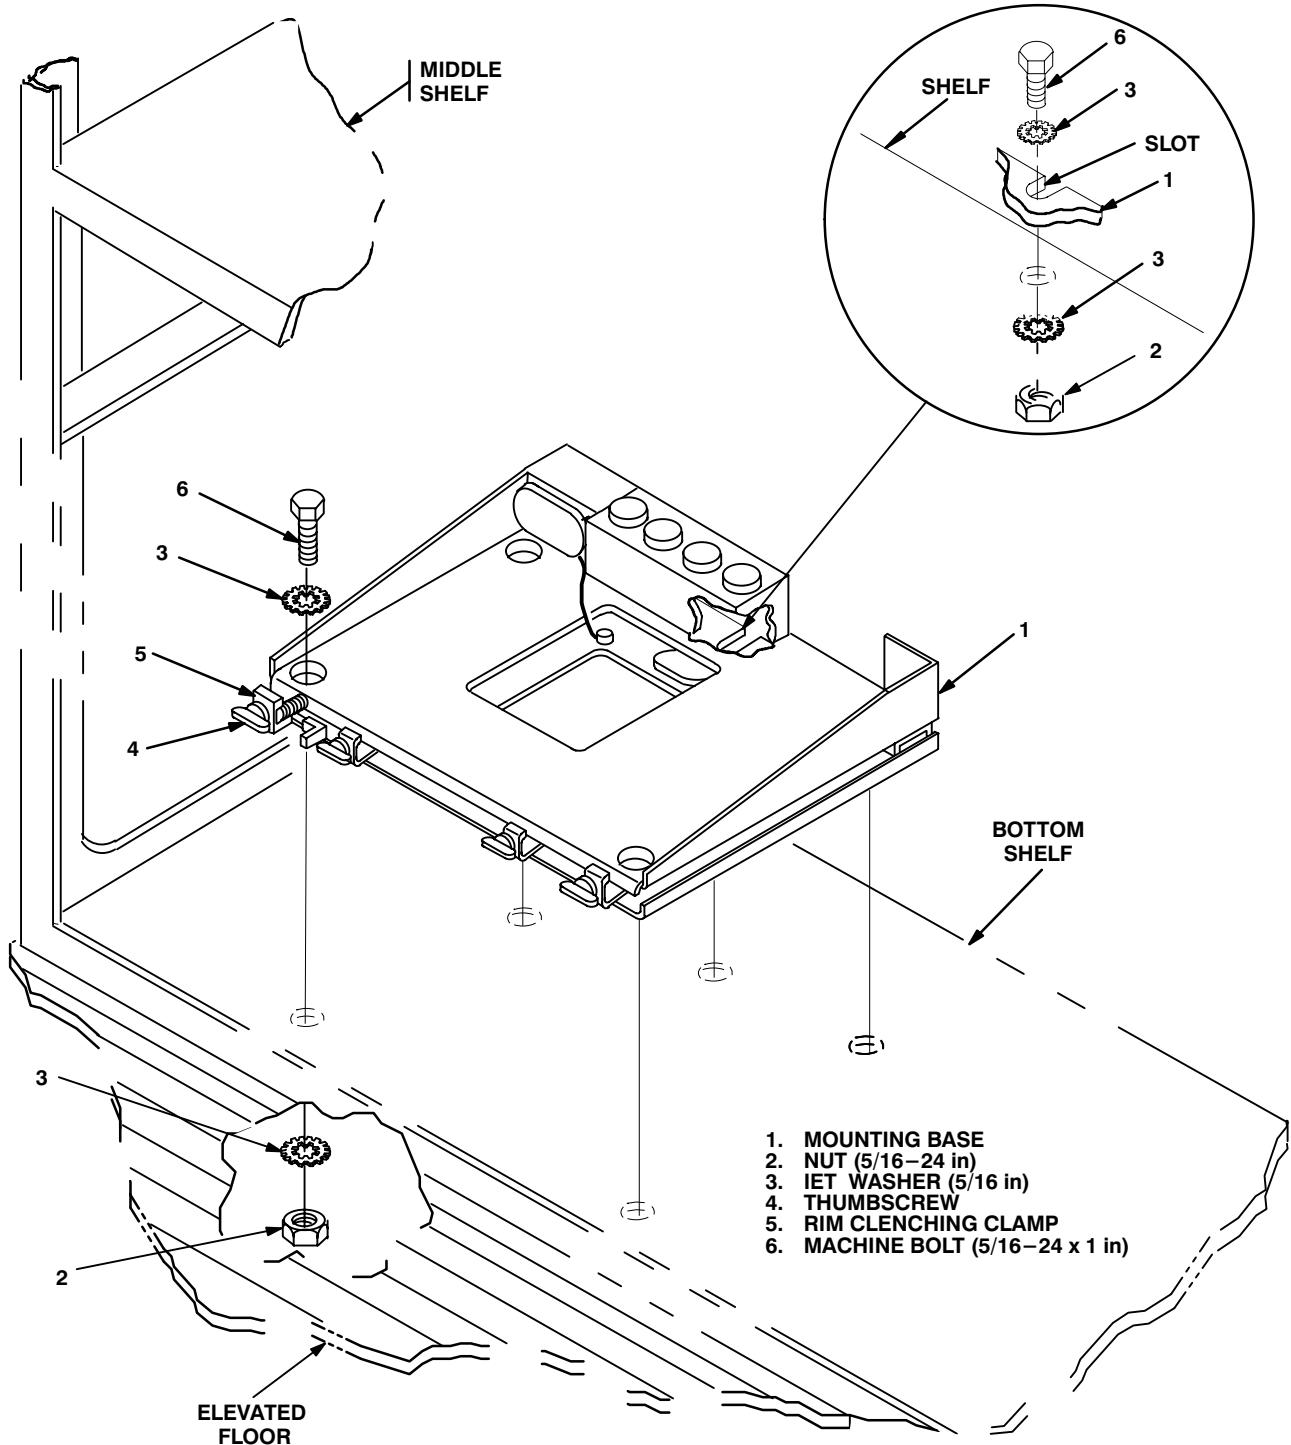

Figure 5-4 (1). Mounting Base Installation: Forward Curbside Equipment Rack
5.2 Installation of Mounting Base, Electrical Equipment MT-6352/VRC (mounting base). Remove and retain attaching bag of 5/16 in mounting hardware for installation. To insure good electrical grounding, any rust, corrosion or paint around mounting holes in equipment shelf should be removed before installing mounting bases. See figure 5-4 (1) and perform steps a thru f to install forward curbside mounting base. Perform steps g thru i and see Figure 5-4 (2) to install rear mounting base.